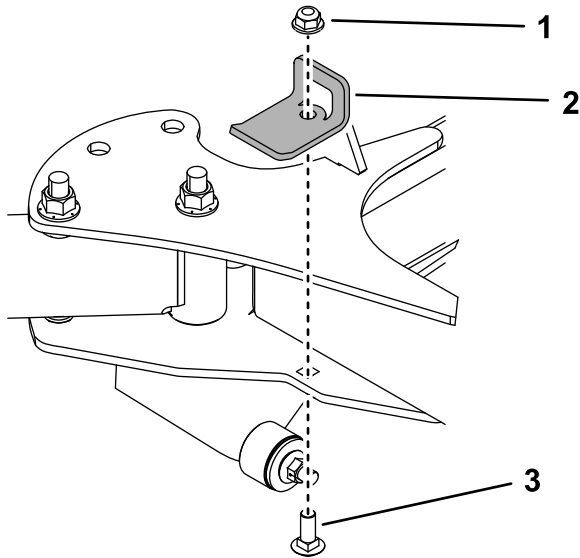

Figure 13
10. Use a carriage bolt (3/8 x 1 inch) and a locknut (3/8 inch) to install the stop bracket to the right side of the machine (Figure 13). Torque the bolt to 37 to 45 N·m (27 to 33 ft-lb).